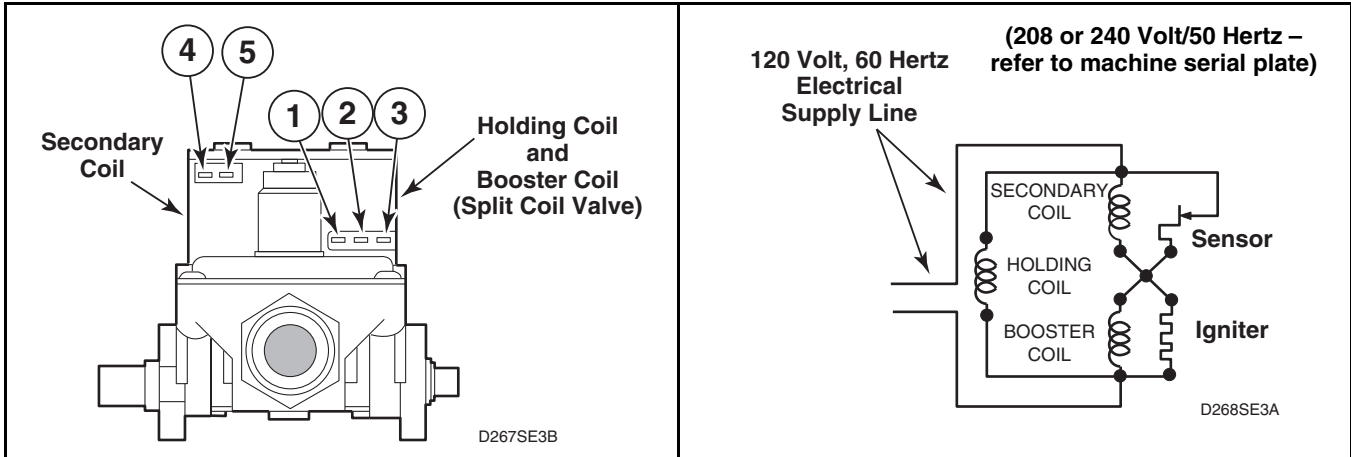

Figure 36
(Gas Models – Refer to *Figure 36*.)
- f. Set test meter to read AC voltage and apply meter probes into terminals on the dryer harness plug that would correspond to terminals "1" and "2" on the coil. *Figure 36*. Meter should register line voltage in all Fabric settings, except FLUFF which should read "zero" VAC.